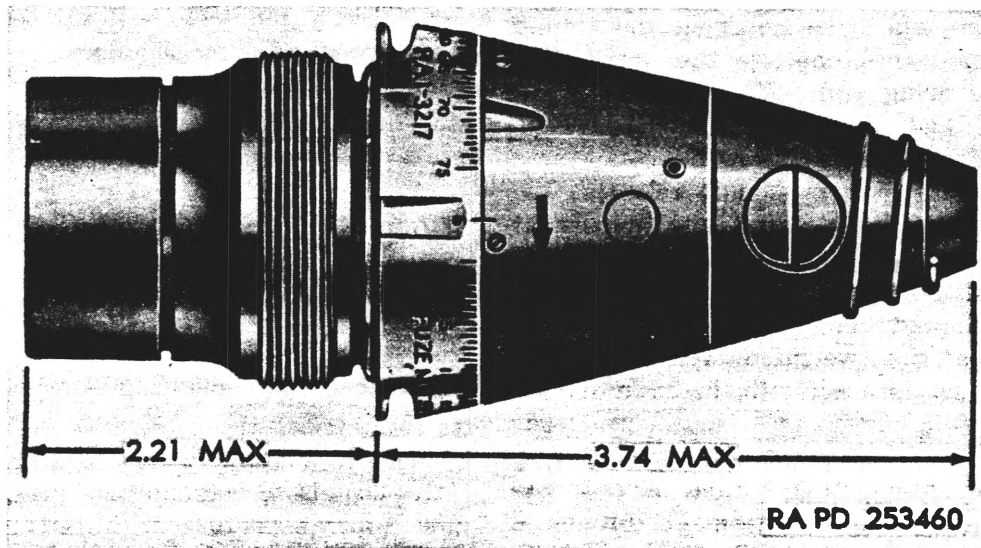

Figure 24. Fuze, mechanical time and superquick: M500.A1.
*a. General.* This fuze (fig. 24) is a combination mechanical time and superquick fuze with settings for time action (2 to 75 seconds) and an impact element for superquick action. The time action of this fuze is based on a clockwork principle. A safety disk prevents functioning of the fuze at less than 1.5 seconds time of flight. A minimum calibration setting of 2 seconds is provided. The fuze is graduated in 1/2-second intervals up to 75 seconds. A pull wire extends through the fuze body and under the setback pin, providing positive safety during shipment and handling. The fuze is set safe as shipped. The